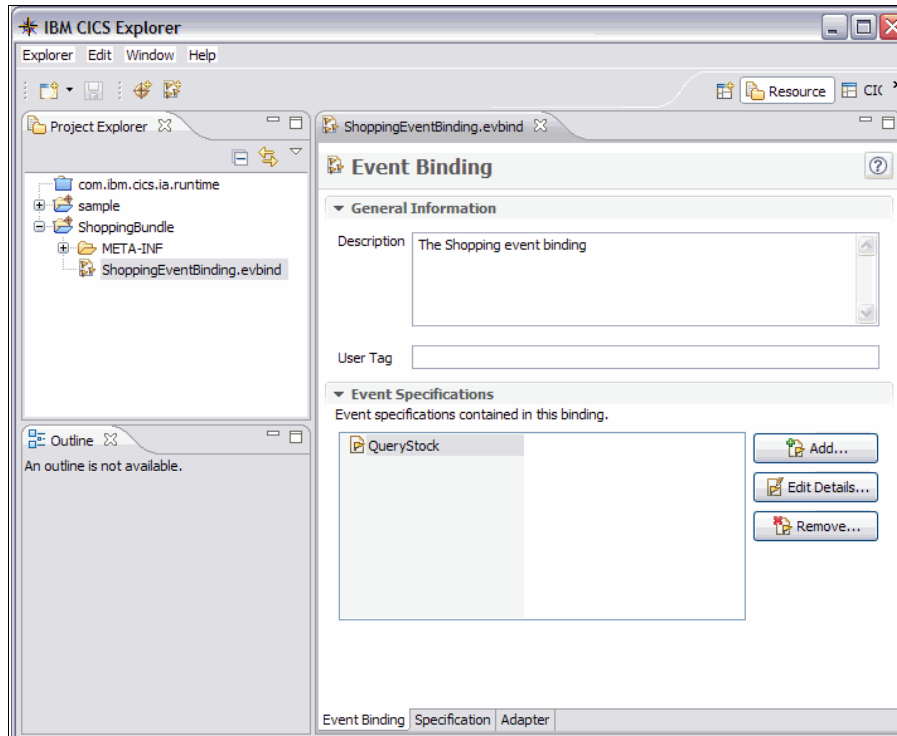

Figure 5-36 Changing the adapter
1. In CICS Explorer, open the Resource perspective. In the Project Explorer window, expand the ShoppingEventBundle project. Right-click ShoppingEventBinding.evbind and click **Open**. In the presented window (Figure 5-36), click the **Adapter** tab at the bottom of the window.
1. In CICS Explorer open the Resource perspective. In the Project Explorer window, expand the ShoppingBundle project. Right-click ShoppingEventBinding.evbind and click **Open**. In the presented window (Figure 5-36 on page 123), click the **Adapter** tab at the bottom of the window. Set the following values: